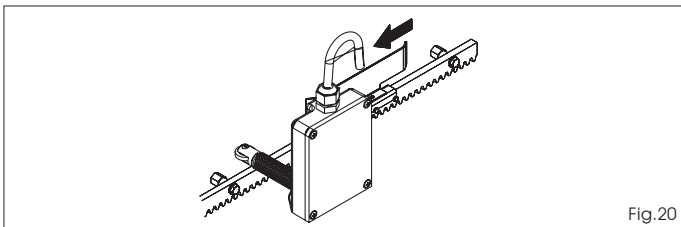

Fig.20
- 6) Repeat the operations at points 4 and 5 for the closing limit switch, Fig. 20.